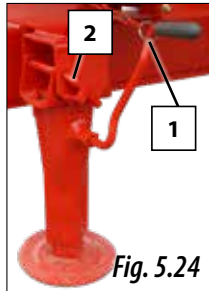

Fig. 5.24
- 3- Place the support foot in vertical position and place the security pin (2, Fig. 5.24) for fixing its position.
- 4- Adjust the foot height with the crank (1, Fig. 5.24) and fasten the crank with the chain (Fig. 5.24).
- 1- Remove the crank fastening chain (1, Fig. 5.24) and the security pin (2, Fig. 5.24).